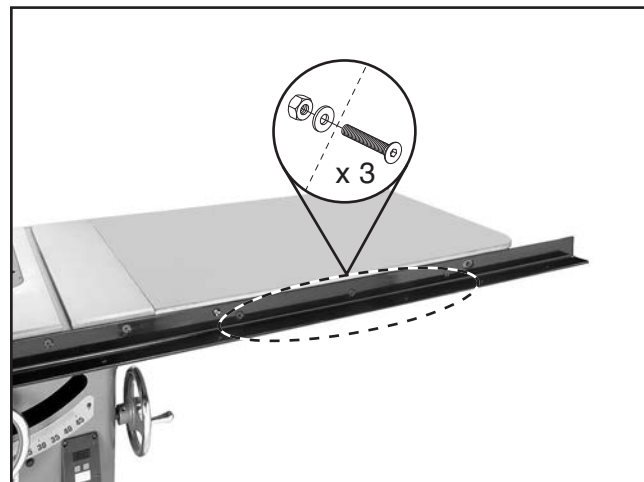

Figure 5. Front rail/table fastener locations.
5. While assistant holds extension table, fasten 91½" front rail to extension table with (3) M8-1.25 x 25 flat head screws, 8mm flat washers, and M8-1.25 hex nuts (see **Figure 5**). Finger-tighten for now.